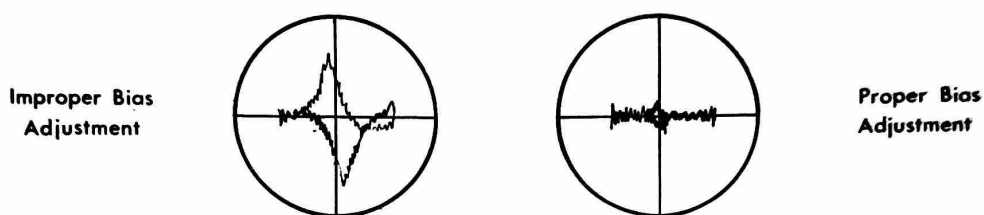

Figure 2
4. Using the Harmonic Distortion Analyzer, looking at the distortion of the amplifier properly nulled, make the adjustment as follows: Adjust bias for class "AB" operation by turning the bias potentiometer VR601 so that the crossover is at the point of being eliminated. NOTE: Class "A" operation (continued CW rotation) causes the output transistors to draw excessive current and overheat. Refer to Figure 2 below.